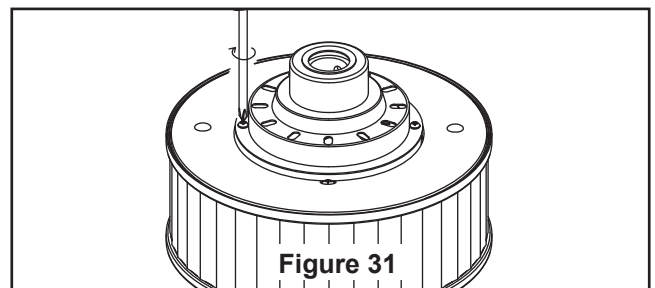

Figure 31
- ☐ 3. Tight the two screws from the motor coupler cover. (Figure 31)